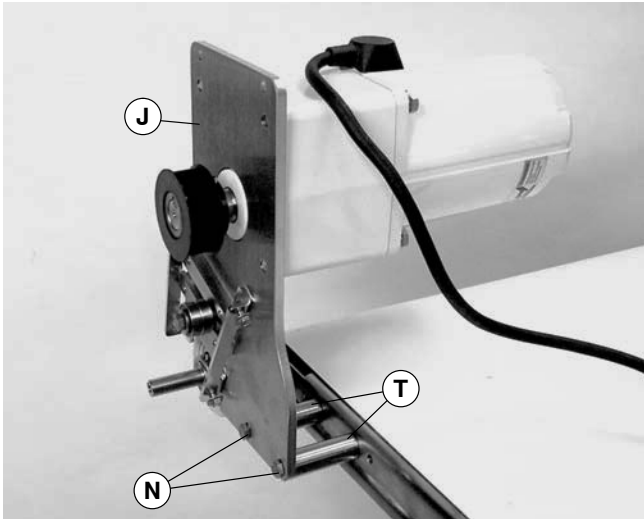

Figure 4
NOTE: For a 7300 Series mounting package (shown in Figure 4), install two spacers (T) (shipped loose) between the mounting plate/gearmotor assembly (J) and the conveyor. On a 7200 Series, the two spacers are attached to the mounting plate/gearmotor assembly.
3. Attach mounting plate/gearmotor assembly (J) and two spacers (see Note) with screws (N). Tighten screws to 92 in-lb (10.4 Nm).